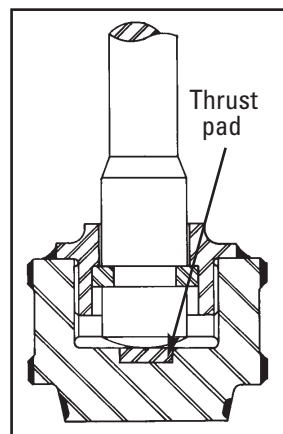

Figure 5.2O
3. Verification of contact between the valve disc and the stem is made by a radius on the end of the valve stem and is designed to give center loading for the disc as closely as possible. A hard thrust pad (*Fig. 5.2O* and *5.2P*), which can be found in some designs, will help prevent galling. On valves without a thrust pad, the bearing surface in the disc